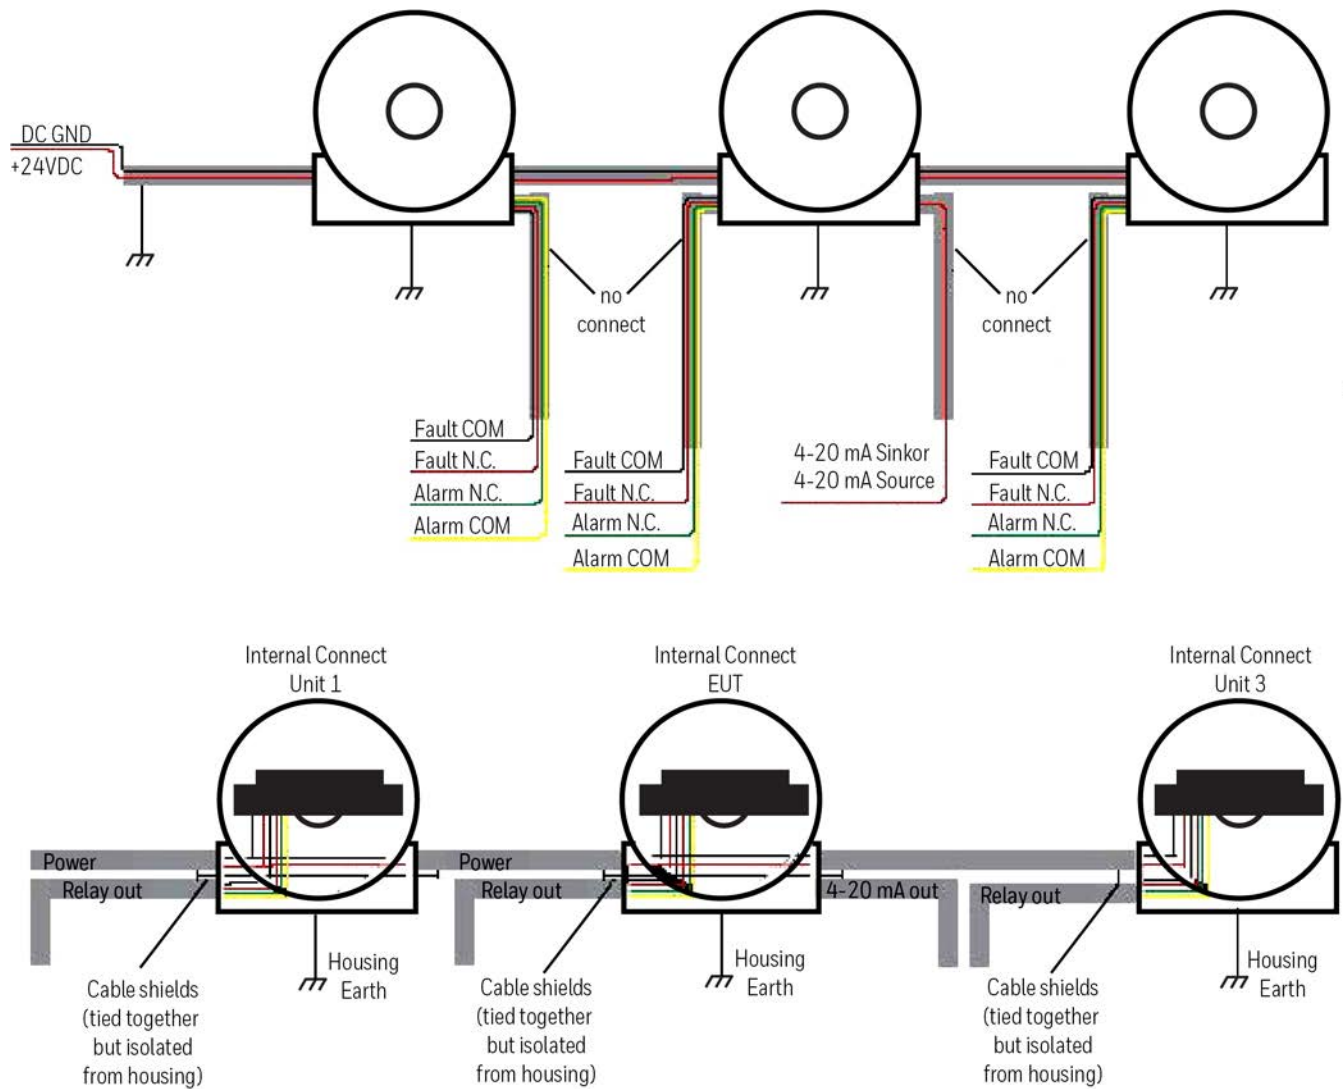

Figure 2-10
The Detector Module puck has a six (6) pin and a ten (10) pin keyed removable connector with screw terminal female plugs that connect to the two (2) respective male connectors with analog, digital, and relay interfaces (see Figure 2-10:
- For **relay configurations**, use the ten (10) pin plug (J2) and its connector.
- For **digital and analog configurations**, use the six (6) pin plug (J1) and its connector.